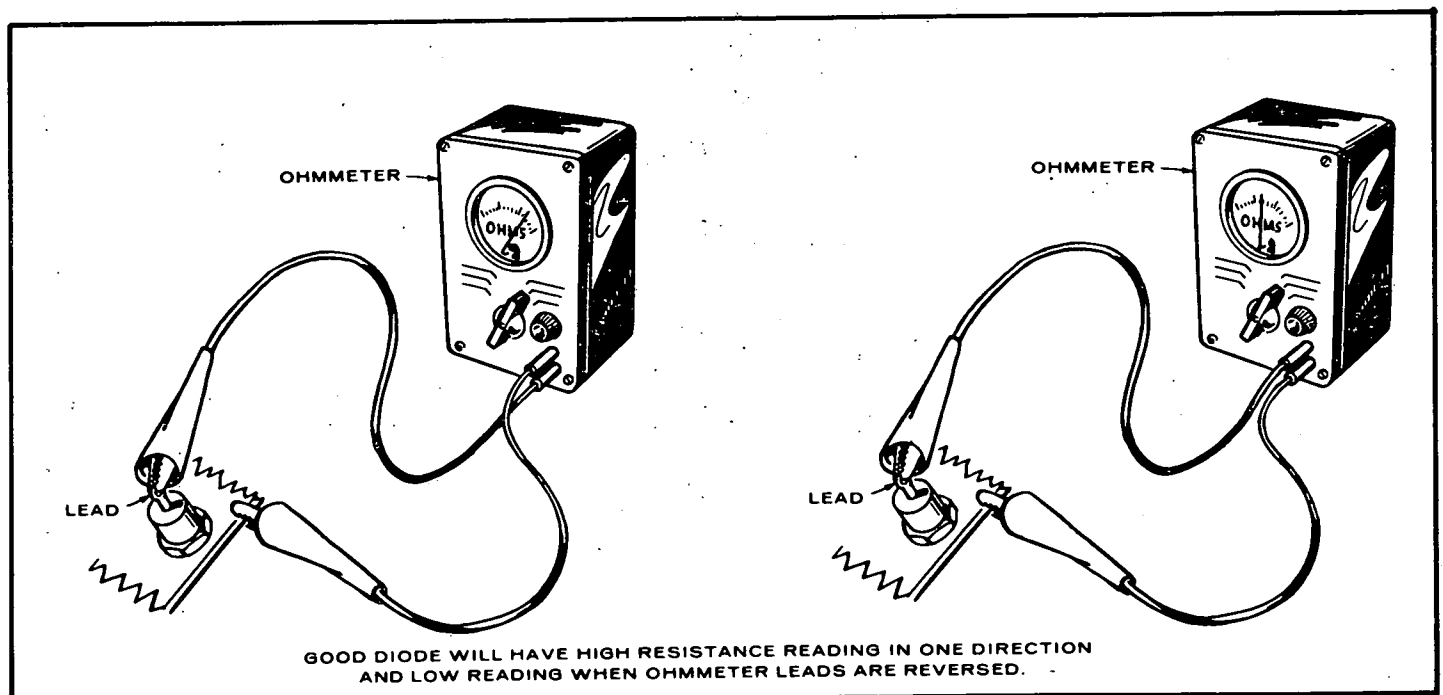

FIGURE 15. TESTING DIODES
3. To check, use an ohmmeter (Figure 15) to measure the resistance in the individual diode. Reverse the ohmmeter leads and repeat resistance measurement. A good diode should have a high resistance value for one measurement and a low value when leads are reversed. If diode is not in good condition, replace with one known to be in good condition.